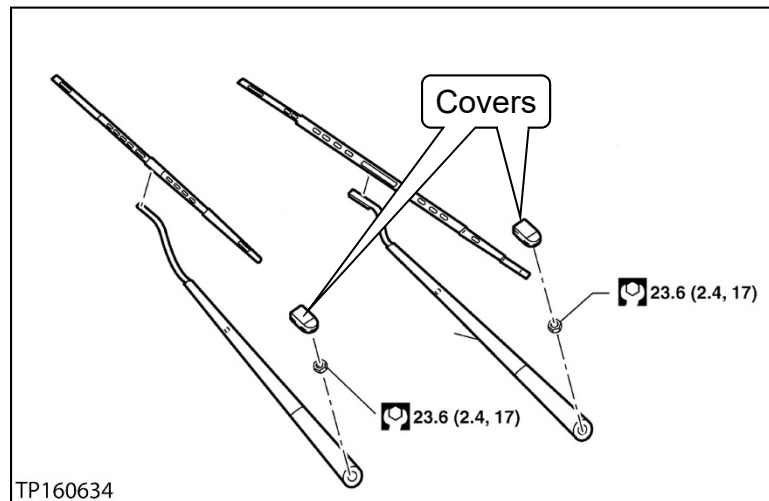

Figure 8
- b. Remove the wiper arm covers (see Figure 8).